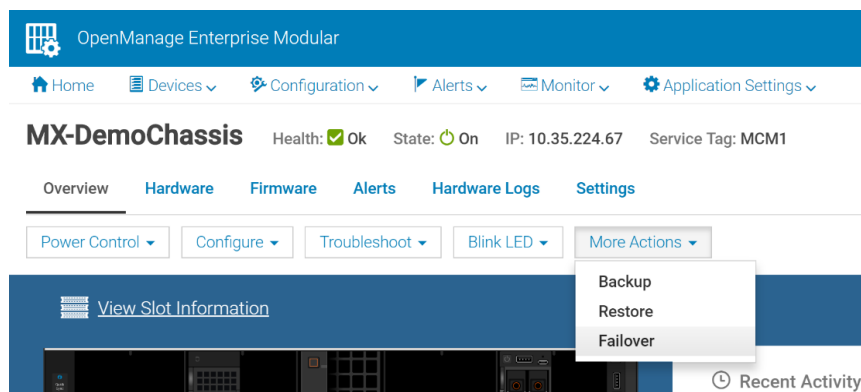
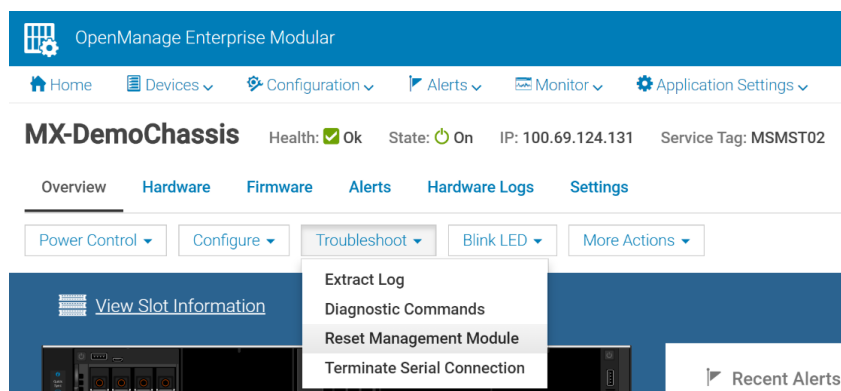

Figure 3 Failover using OME Modular GUI
Figure 4 Reset Management Module using OME Modular GUI
- User initiates the “Failover operation (Figure 3)” or “Reset Management Module operation (Figure 4)” via OME Modular interfaces (GUI, Rest API and Racadm). User may perform these